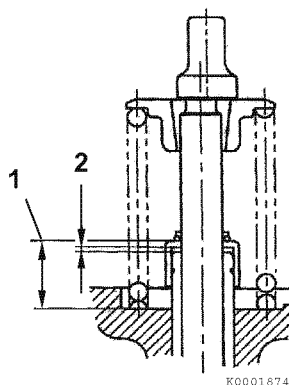

Figure 6-29
The exhaust valve stem seals are different than the intake valve stem seals and can be identified by either the paint marks on the outside of the seals or by the color of the seal spring (Figure 6-29, (4)). Ensure they are installed in the correct locations.
2. Measure the distance (Figure 6-29, (1)) from the cylinder head to valve stem seal to ensure proper clearance (Figure 6-29, (2)) between the guide and the seal. See *Valve Stem Seal Projection specification on page 6-6*.